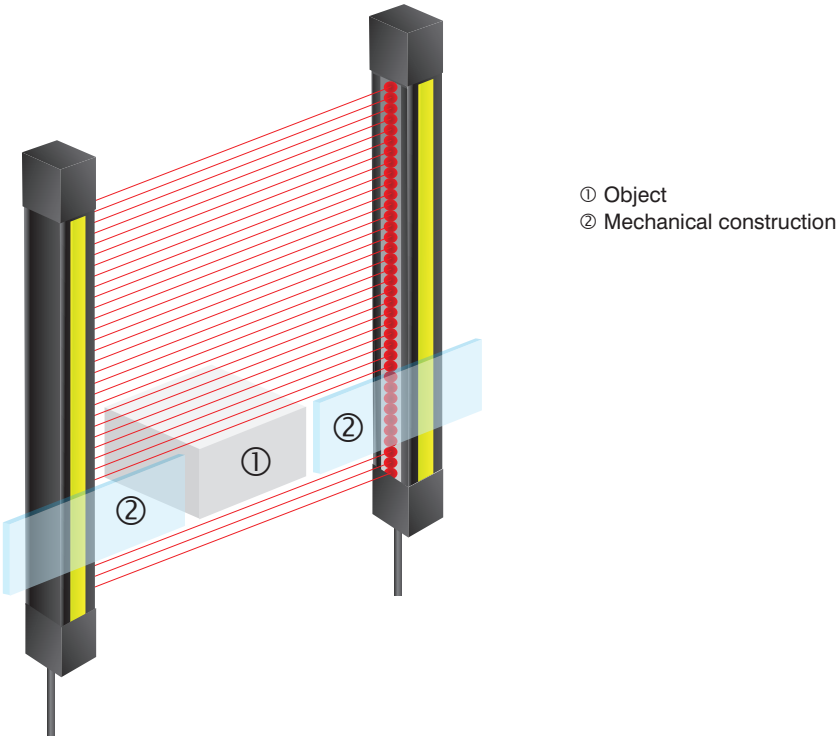

Figure 21: Additional safeguard for the hidden area
- A hidden area is a "hole in the safety field". The area must therefore be secured by other means, mechanically, for example (see Figure 21).